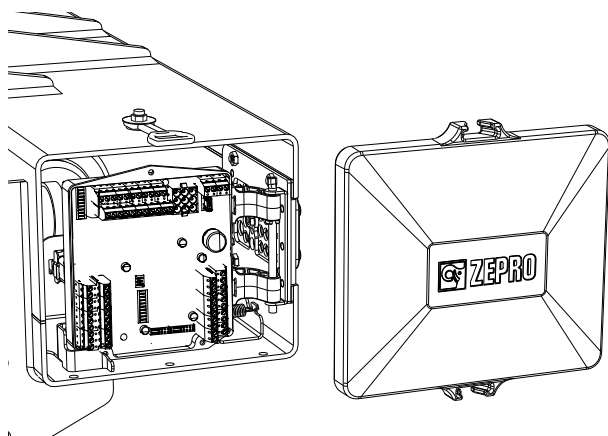

Figure 11. Remove the protective cap
2. Remove the protective cover mounted with a rubber strap; see Figure 11.